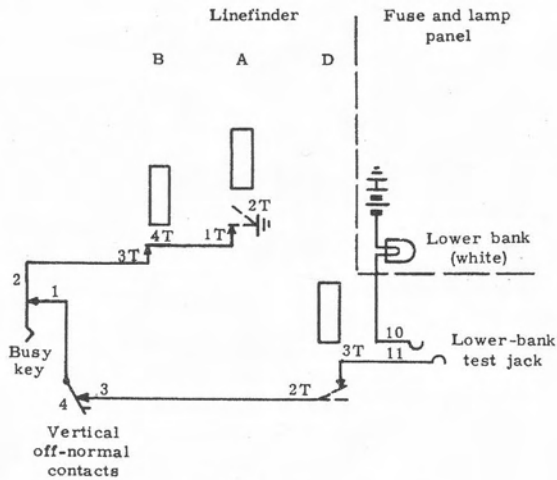

Figure 35. Circuit for lower-bank test to determine which wipers of a 200-line linefinder are in use.
**6.51 Tracing a call or a “permanent” (figure 35).** If a 200-line linefinder is connected to a line in its lower bank, its relay D is operated (§4.5), and if a switchman presses together linefinder test-jack springs 10 and 11, the linefinder-shelf LOWER BANK lamp lights. If the linefinder is connected to an upper-bank line, relay D is not operated and when test-jack springs 10 and 11 are pressed together the LOWER BANK lamp will not light.